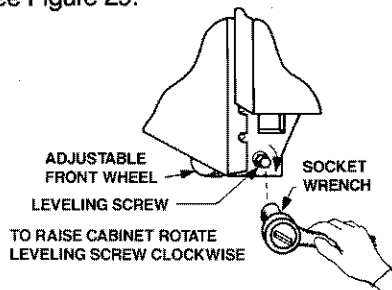

FIGURE 29
rear wheels. Adjust the front wheels or leveling feet to level the refrigerator. To raise, turn screw or leveling feet clockwise. To lower, turn counterclockwise. See Figure 29.
- A. Lower the front wheel (turn the screw counterclockwise one turn at a time) on the side of the refrigerator which has the lower door. See Figure 29.